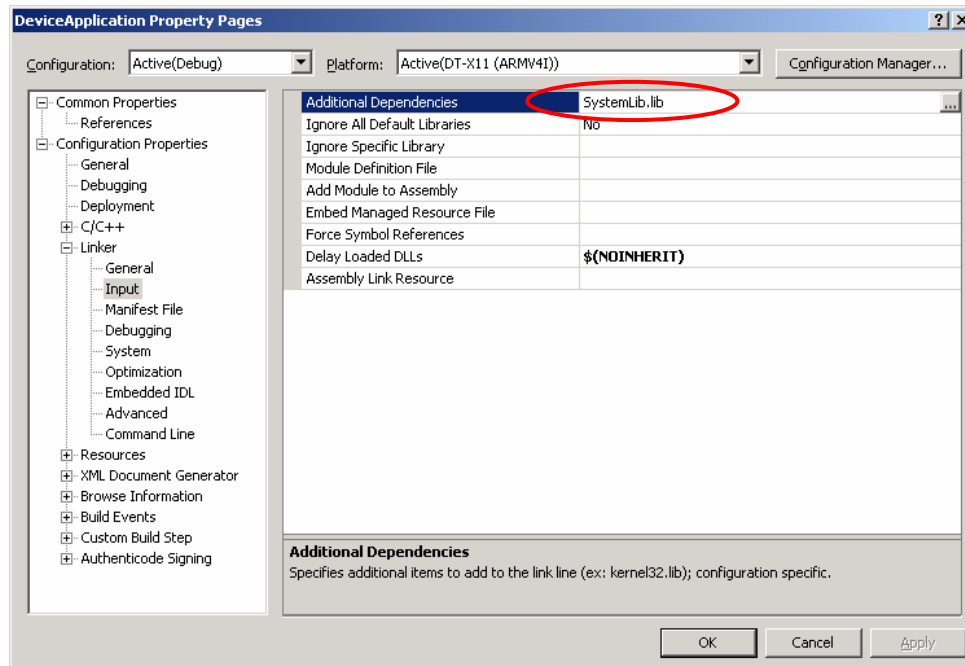

Figure 9.6
8. Choose **Properties** in the Project of Visual Studio 2008 or Visual Studio 2005, and navigate to **Configuration Properties** → **Linker** → **Input** → **Additional Dependencies** and then add **SystemLib.lib** (see red circle in Figure 9.6).